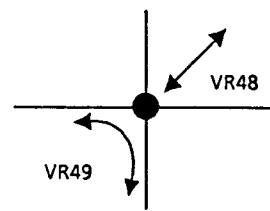

Fig. 4-16
- Adjust VR48 and VR49 so that the vector positions on the center of the vectorscope and the carrier leak of the video signal on the waveform monitor becomes minimum. (Fig. 4-16)